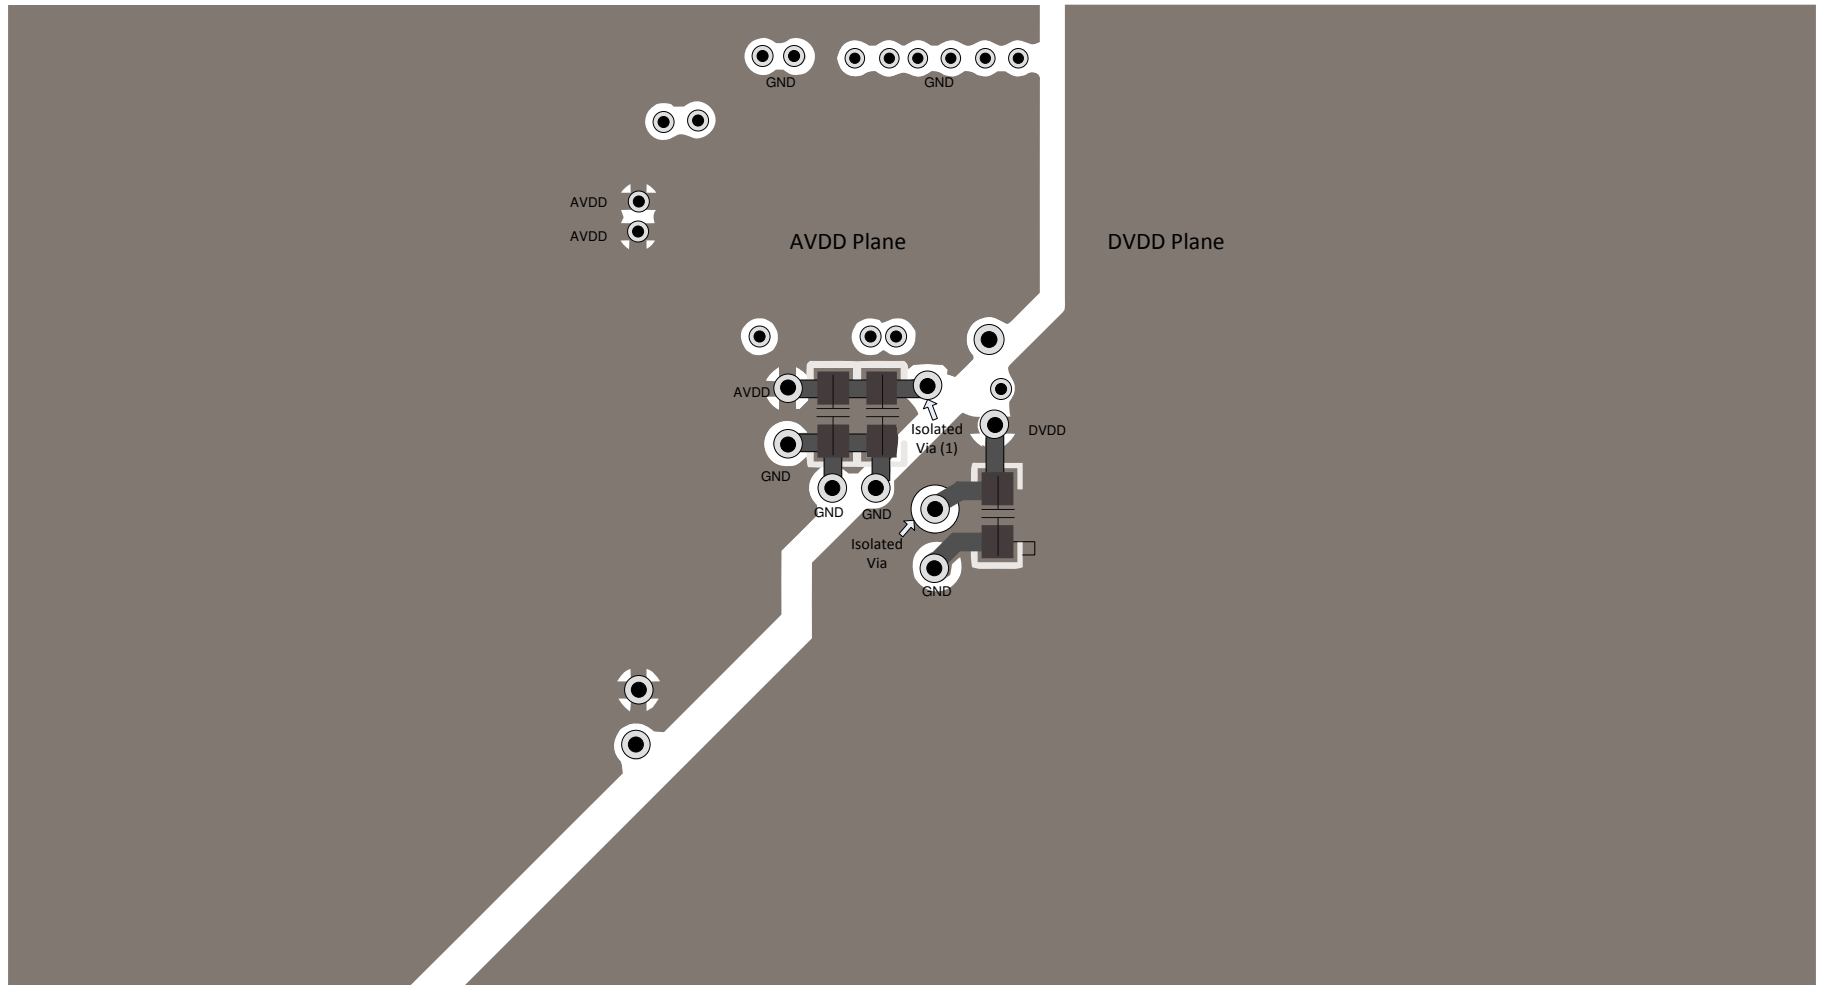

图 8-7. Bottom Layer Layout
- Power sources to the ADS8588H must be clean and well-bypassed. As a result of dynamic currents during conversion, each AVDD must have a decoupling capacitor to keep the supply voltage stable. Use wide traces or a dedicated analog supply plane to minimize trace inductance and reduce glitches. Using a 1- $\mu$ F, X7R-grade, 0603-size ceramic capacitor is recommended in close proximity to each analog (AVDD) supply pins. Bypass capacitors for AVDD pins 1 and 48 are located on the top layer; see 图 8-6. AVDD supply pins 37 and 38 are connected to bypass capacitors in the bottom layer using an isolated via (1); see 图 8-7. A separate via (2) is used to connect the bypass capacitor to the AVDD plane.
- For decoupling the digital (DVDD) supply pin, a 1- $\mu$ F, X7R-grade, 0603-size ceramic capacitor is recommended. The DVDD bypass capacitor is located in the bottom layer; see 图 8-7.